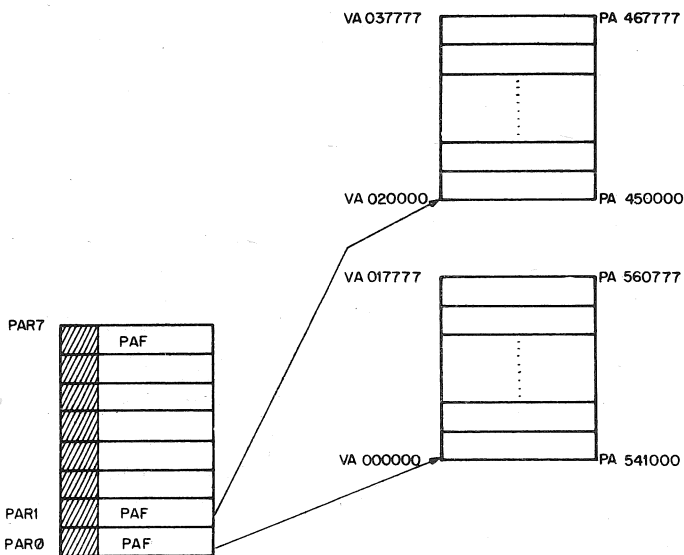

Figure 11-12 Non-Consecutive Memory Pages
It should be noted at this point that although the correspondence between Virtual Addresses (VA) and PAR/PDR pairs is such that higher VAs have higher PAR/PDR's, this does not mean that higher Virtual Addresses (VA) necessarily correspond to higher Physical Addresses (PA). It is quite simple to set up the Page Address Fields (PAF) of the PAR's in such a way that higher Virtual Address blocks may be located in lower Physical Address blocks as illustrated in Figure 11-12.